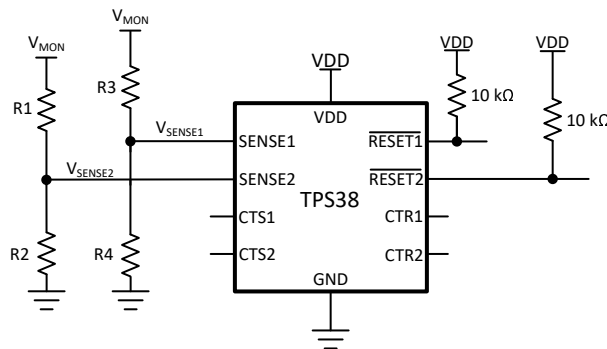

Figure 8-10. Adjustable Voltage Threshold with External Resistor Dividers
For example, consider a 12 V rail being monitored V_{MON} for undervoltage (UV) using channel 1 of the TPS38A010122DSKR variant. Using Equation 7 and shown in Figure 8-10, R_1 is the top resistor of the resistor divider that is between V_{MON} and V_{SENSE2} , R_2 is the bottom resistor that is between V_{SENSE2} and GND, V_{MON} is the voltage rail that is being monitored and V_{SENSE2} is the input threshold voltage. The monitored UV threshold, denoted as V_{MON-} , where the device will assert a reset signal occurs when $V_{SENSE2} = V_{IT-(UV)}$ or, for this example, $V_{MON-} = 10.8V$ which is 90% from 12 V. Using Equation 7 and assuming $R_2 = 10k\Omega$, R_1 can be calculated shown in Equation 8 where I_{R1} is represented in Equation 9: